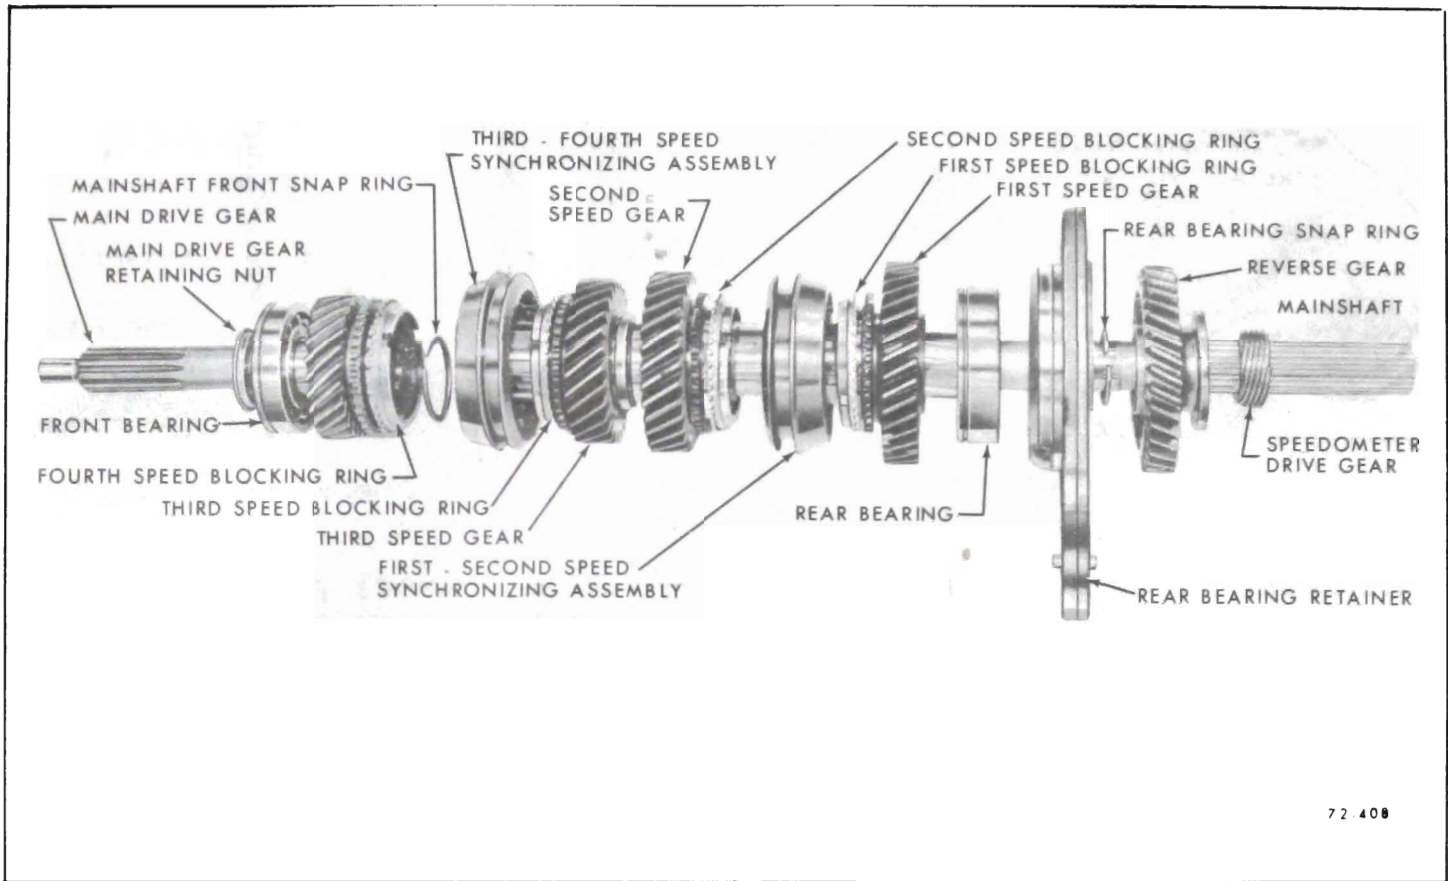

Figure 72-408 - Exploded View of Main Shaft Assembly
a. Disassembly - Refer to Figure 72-408
c. Assembly - Refer to Figure 72-408